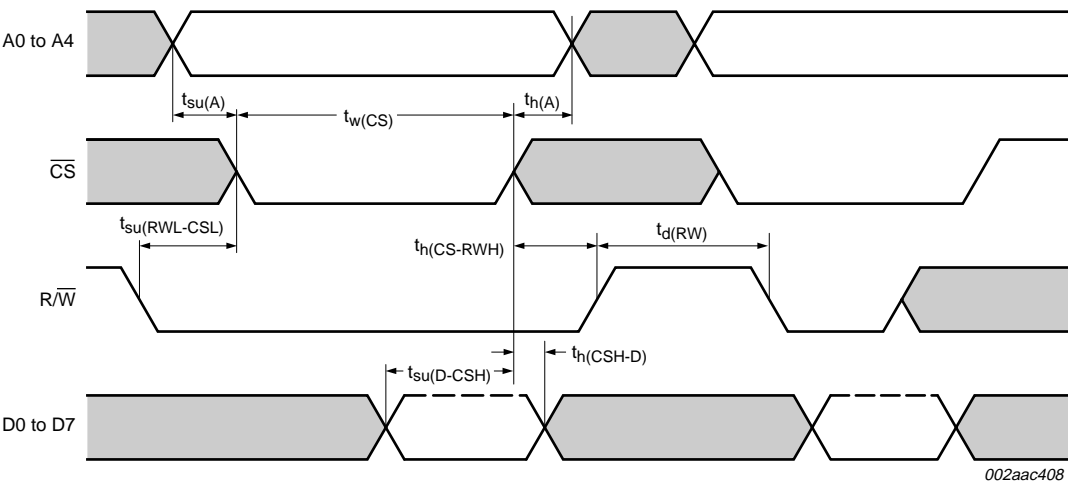

Fig 10. General write timing in 68 mode
(1) $\overline{\text{CS}}$ timing during a write cycle. See Figure 10.